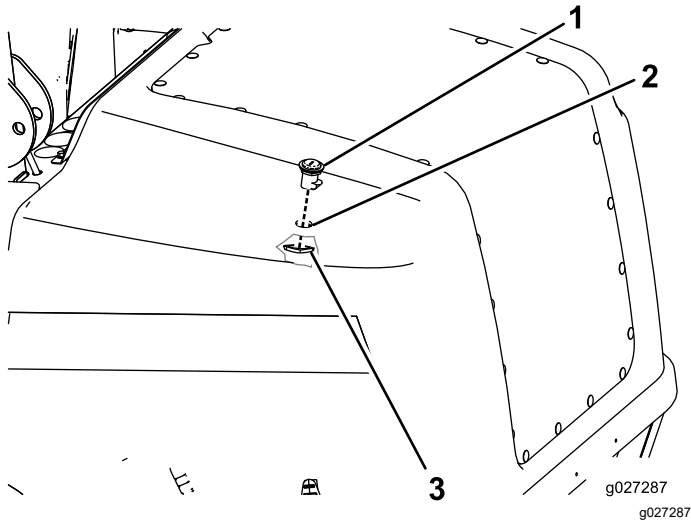

Figure 4
11. Install the lock assembly through the hood and the support latch bracket with the catch facing forward (Figure 4).
12. Install the locking nut onto the bottom of the lock assembly to secure it into place (Figure 4).